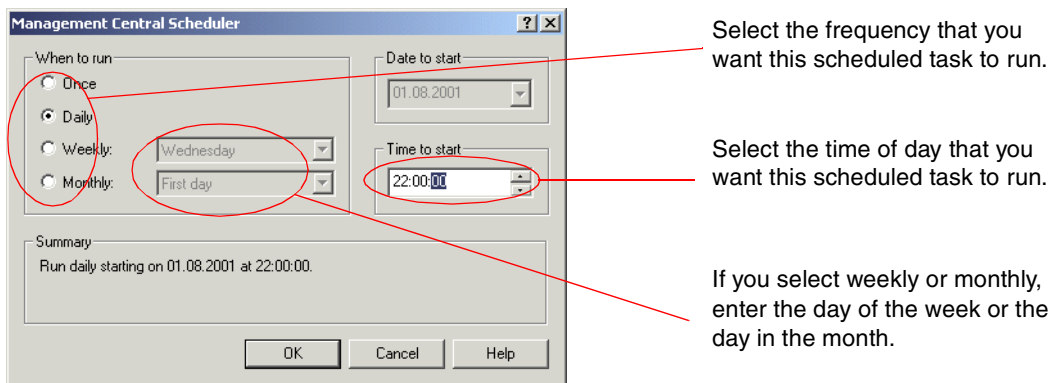

Figure 8-45 Management Central Scheduler display: Set to primary
- The Management Central Scheduler window now appears as shown in Figure 8-45. Select the **Daily** radio button and change the Time to start field to **22:00**.